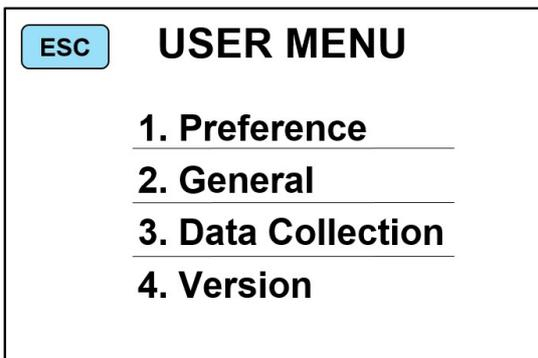

Figure 26
1) Press the “” key to enter the main interface of USER MENU, as shown in Figure 26 below,